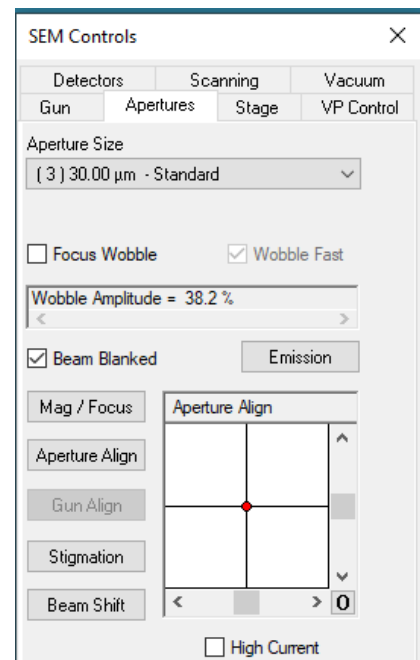

Figure 14
- Aperture: Use 30-µm (Figure 14)